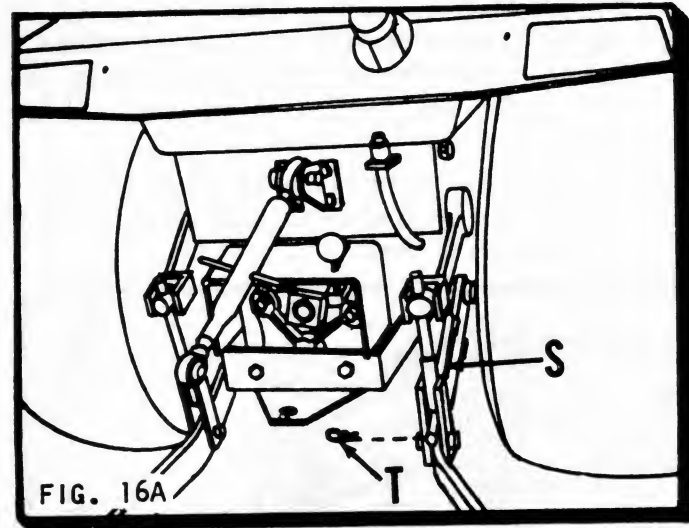

FIG. 16A
2. For Sears tractor assemble anti-sway bracket (S) between right hand tractor three point hitch arm and tractor frame. Secure with hair cotter pin (T). (Fig. 16A)